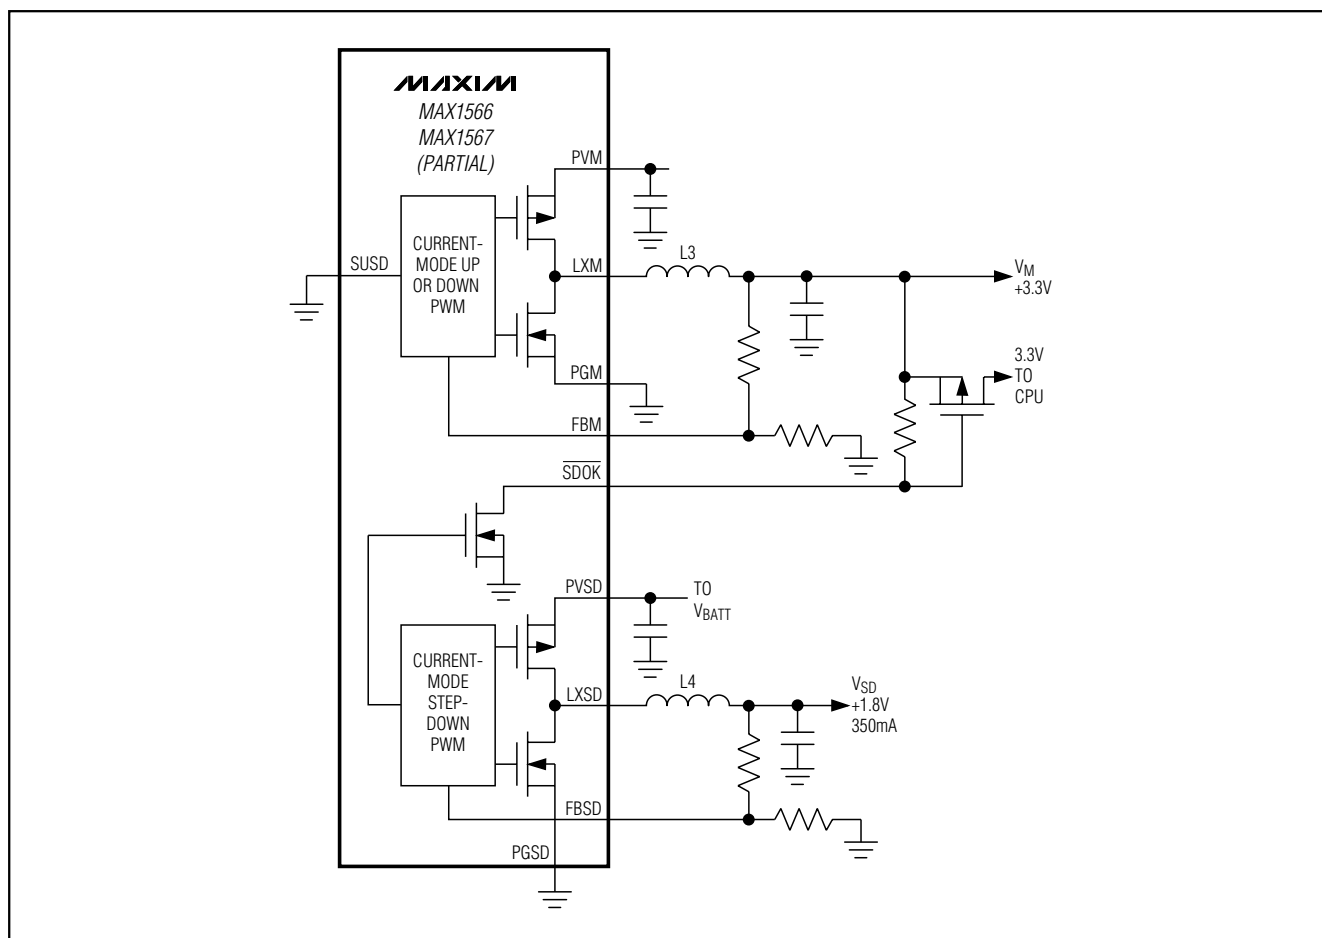

Figure 15. Using  $\overline{\text{SDOK}}$  to Drive External PFET that Gates 3.3V Power to CPU After 1.8V Core Voltage Is in Regulation
The step-down also features an open-drain  $\overline{\text{SDOK}}$  output that goes low when the step-down output is in regulation.  $\overline{\text{SDOK}}$  can be used to drive an external MOSFET switch that gates 3.3V power to the processor after the core voltage is in regulation. This connection is shown in Figure 15.
**SDOK** pulls low when the step-down has successfully completed soft-start. **SDOK** goes high impedance in shutdown, overload, and thermal limit. A typical use for **SDOK** is to drive a P-channel MOSFET that connects 3.3V power to the CPU I/O after the CPU core is powered up (Figure 15), thus providing safe sequencing in hardware without system intervention.